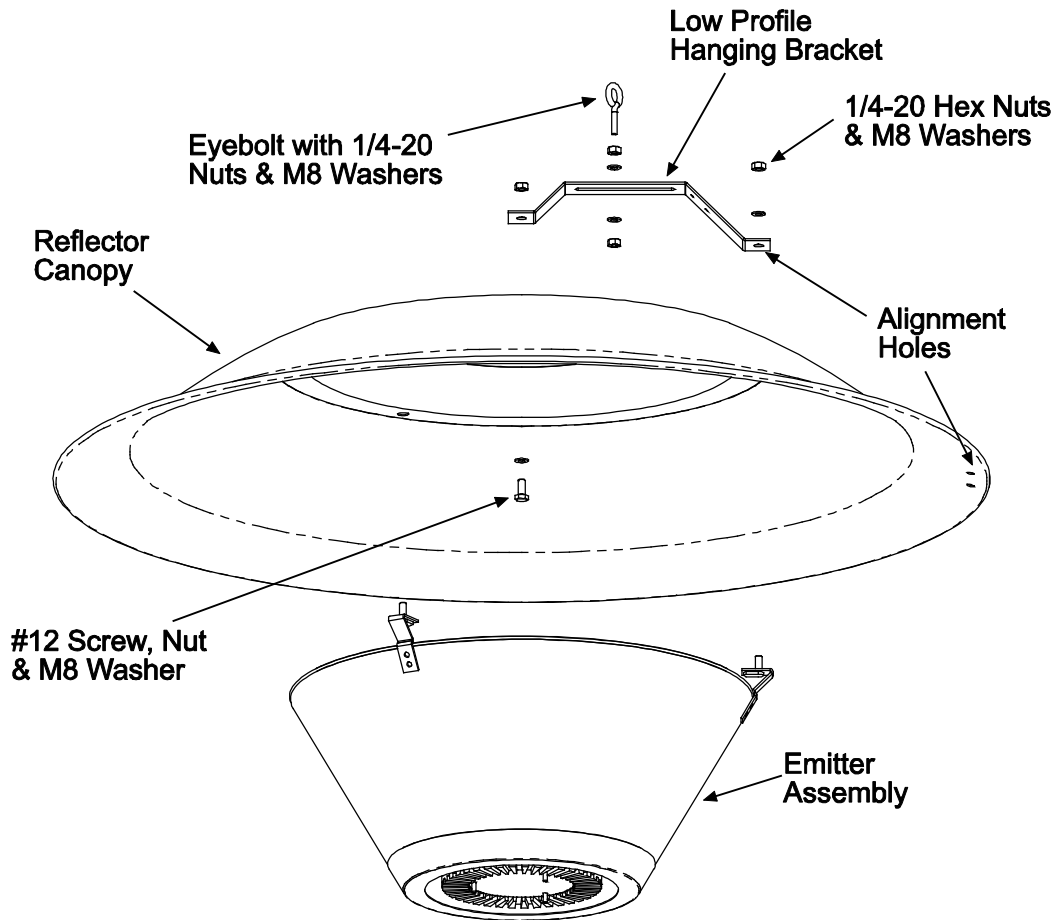
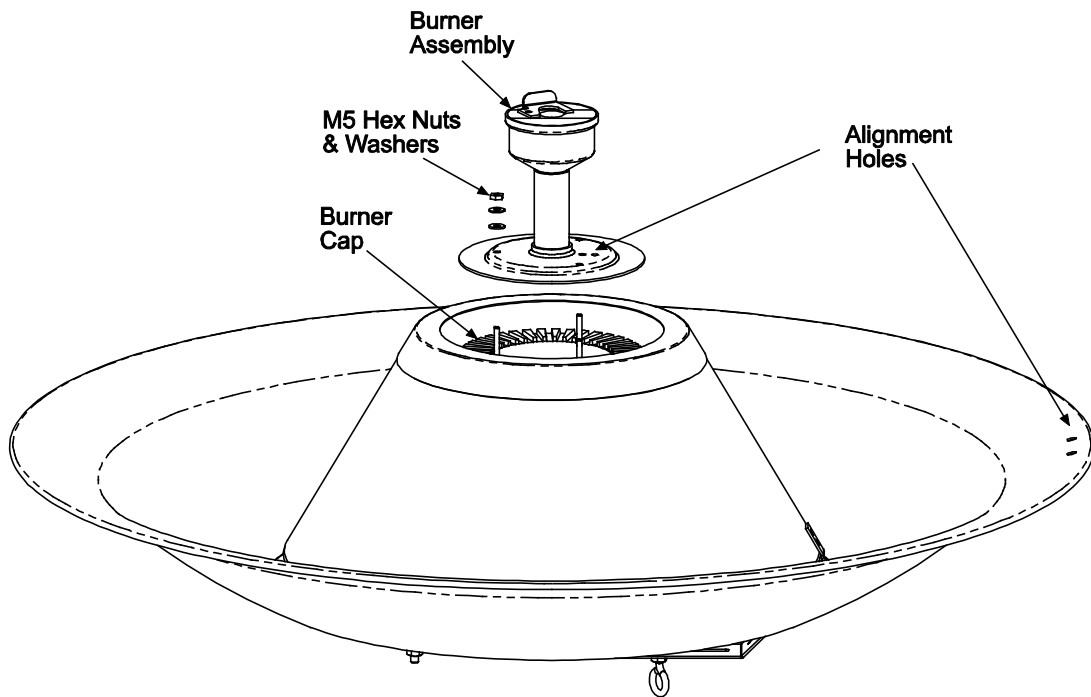

FIGURE 1
FIGURE 2
2. Place the Low Profile Hanging Bracket onto the Canopy as shown. Secure the bracket to the center of the Canopy with a screw, nut and washer from the Fastener Kit. Assemble the eyebolt to the hanging bracket with nuts and washers. Align the hanging bracket with the two (2) holes located at the edge of the Canopy. See Figure 1.
4. Place the Canopy over the Emitter Assembly so that the mounting studs pass through the three (3) holes in the Canopy and the hole in the hanging bracket. Secure the Canopy and the hanging bracket to the mounting studs using nuts and flat washers as shown. See Figure 1.
5. Flip the Emitter/Canopy Assembly Over. Secure the Burner Base to the Burner Cap (which is attached to the Emitter Assembly) and secure it in place using three (3) flat washers, spring lock-washers and nuts from the Fastener Kit.
**NOTE:** Make sure that the two (2) holes located on the Burner Base are facing the two (2) holes in the edge of the Canopy. See Figure 2.